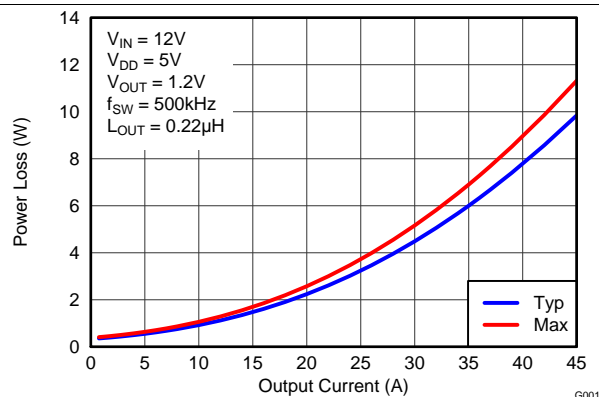

Figure 2. Power Loss vs Output Current
MOSFET centric parameters such as $R_{DS(ON)}$ and Q_{gd} are primarily needed by engineers to estimate the loss generated by the devices. To simplify the design process for engineers, TI has provided measured power loss performance curves. Figure 2 plots the power loss of the CSD95373AQ5M as a function of load current. This curve is measured by configuring and running the CSD95373AQ5M as it would be in the final application. The measured power loss is the CSD95373AQ5M device power loss, which consists of both input conversion loss and gate drive loss. Equation 1 is used to generate the power loss curve.
The power loss curve in Figure 2 is measured at the maximum recommended junction temperature of $T_J = 125^\circ\text{C}$ under isothermal test conditions.
- Typical Power Loss at 30 A = 4.5 W (Figure 2)